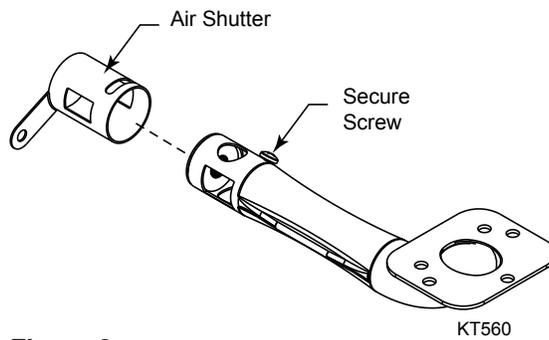

Figure 3
13. Remove air shutter. Secure screw in place. *Figure 3.*